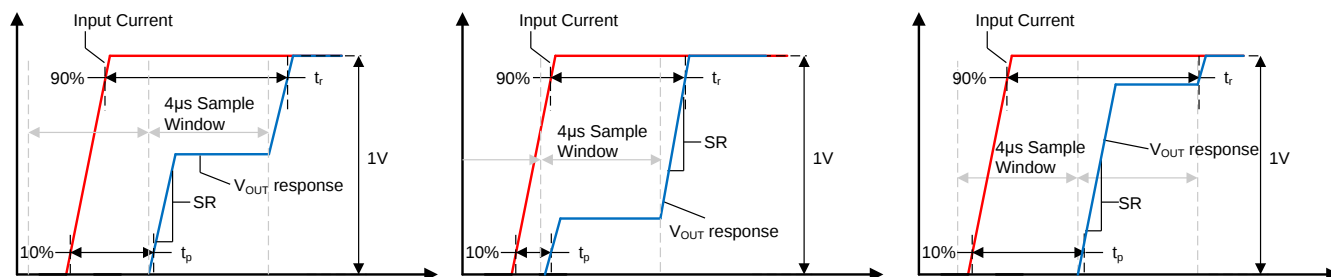

Figure 8-3. Small Current Input Step Transient Response
Slew rate (SR) is defined as the V_{OUT} rate of change for a single integration step's output transition, as shown in Figure 8-3. Because the device often requires two sampling windows to reach a full 90% settling of its final value, this slew rate is not equal to the 10%-90% transition time for the full output swing.
Propagation delay is the time period between the input current waveform reaching 10% of its final value and V_{OUT} reaching 10% of its final value. This propagation delay is heavily dependent upon the alignment of the input current step and the sampling period of the TMCS1108, as shown for several different sampling window cases in Figure 8-3.
Response time is the time period between the input current reaching 90% of its final value and the output reaching 90% of its final value, for an input current step sufficient to cause a 1-V transition on the output. Figure 8-3 shows the response time of the TMCS1108 under three different time cases. Unless a step input occurs directly during the beginning of one sampling window the response time will include two sampling intervals.